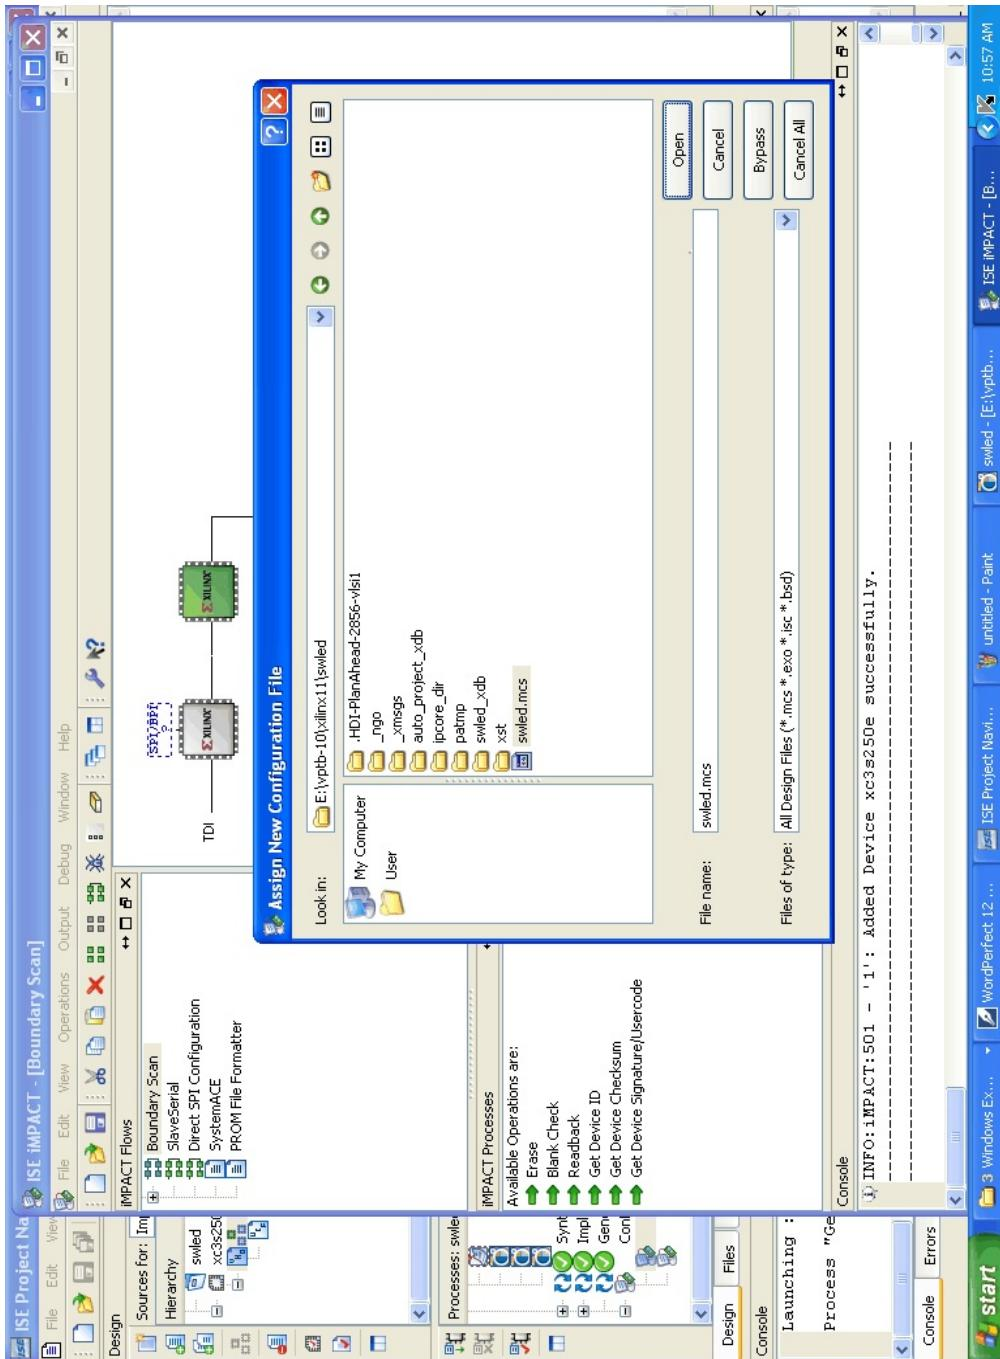

Figure-59
25. The **Assign New Configuration File** window appears again,in that select the respective .mcs file (for eg.**swled.mcs**) and then click **Open** (refer **Figure-59**).